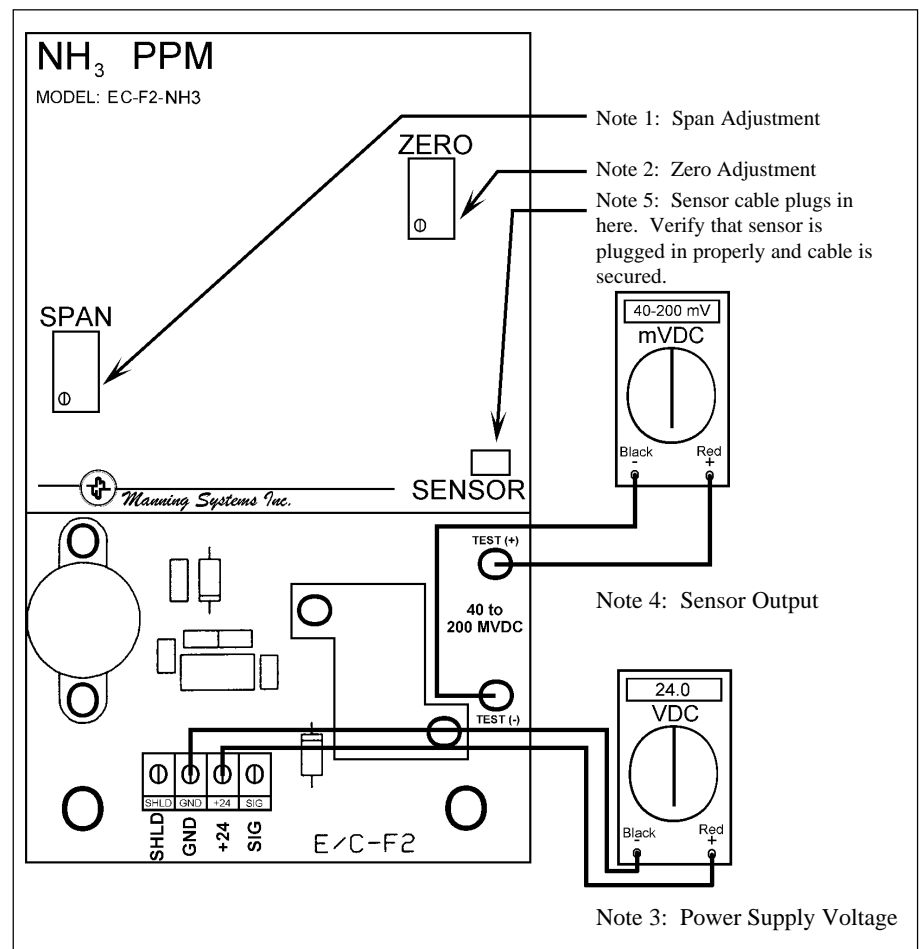

Figure 3: Checking sensor output, power supply voltage, and zero and span adjustments to the EC-F2 Sensor
Before applying power, make a final check of all wiring for continuity, shorts, grounds, etc. (see Figure 3, Note 5). It is usually best to disconnect external alarms and other equipment from the sensor until the initial start-up procedures are completed.
- Adjust the zero pot until the sensor outputs 4.0 mA (40 mV from Test [-] to Test [+]) (see Figure 3, Note 2 and 4).
- After span gas has been on sensor for two minutes, adjust the span pot until the correct output is achieved (see Figure 3, Note 1).
If the sensor output is 0 mA: First, verify +24 VDC at the sensor terminal block (see Figure 3, Note 5).
Second, check voltage between Test (-) and Test (+) (see Figure 3, Note 4). Voltage should be in the range of 40 mV to 200 mV corresponding to an actual current flow of 4 to 20 mA. If this voltage is 0 mV, the signal has no path to ground. Check monitoring equipment connections